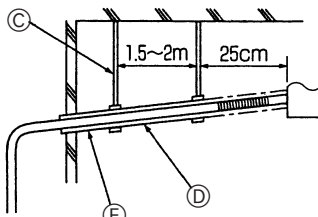

Fig. 8-2
- (4) Ensure that the drain piping down-gradient is greater than 1/100. (Fig. 8-2)
- ⑥ Supports
- ⑦ Down-gradient greater than 1/100.
- ⑧ Thermal insulation